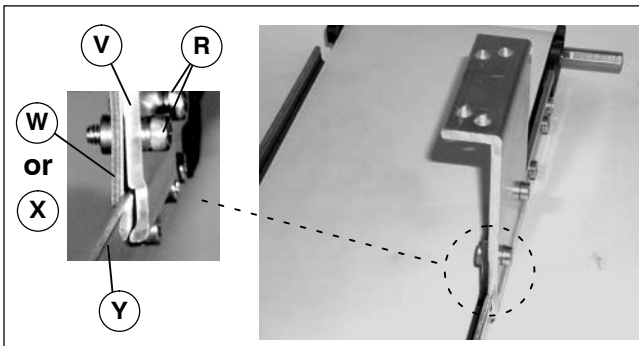

Figure 9
- Attach stand mounting bracket (V of Figure 9) to bottom of conveyor (Y). Snug-up screws (R).